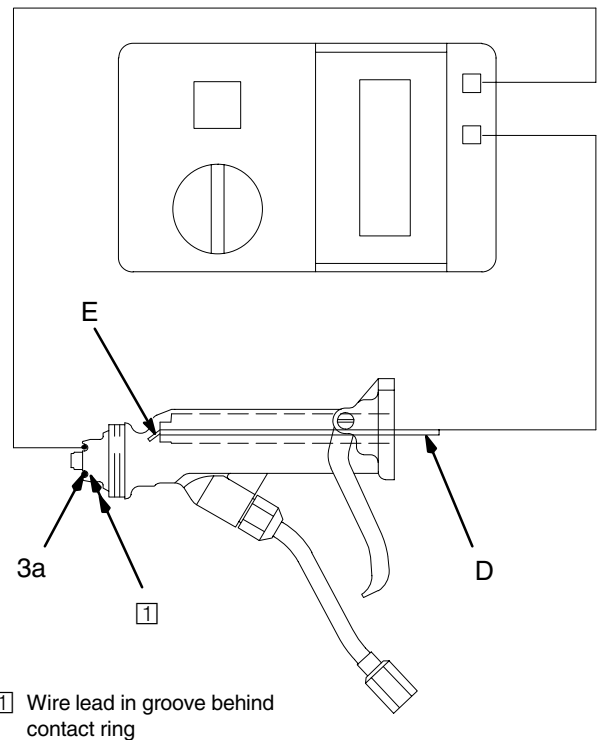

Fig. 6
Test Barrel Resistance (See Fig. 6)
Measure the resistance between the barrel contact ring (3a) and the metal contact pin (E), using a metal rod (D) and megohmmeter as shown in Fig. 6. Be careful not to damage or scratch the inner surfaces of the barrel with the metal rod.
2. With the metal rod (D) still inside the barrel as shown in Fig. 6, measure the resistance between the wire lead and the metal rod.